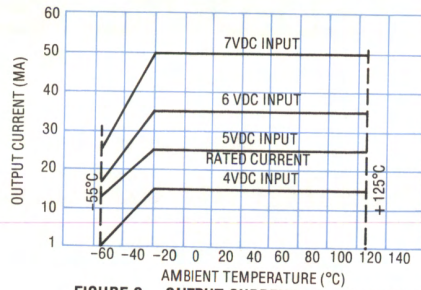

FIGURE 2 - OUTPUT CURRENT VS. INPUT CONTROL VOLTAGE AND AMBIENT TEMPERATURE
1. For any control voltage, the maximum steady state load current value shown in Figure 2 must not be exceeded. Attempting to draw steady state currents in excess of these curves can cause permanent damage. (See Fig. 8).